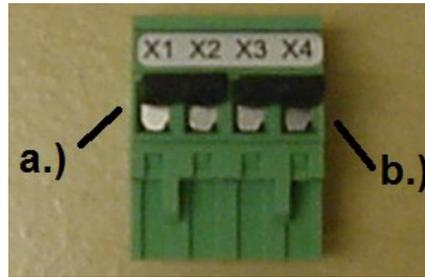

Figure 5B
6) Fit the two Shorting Links provided with the Banner AC Interface Box into terminal block P1 as followed; Refer to figure 5B